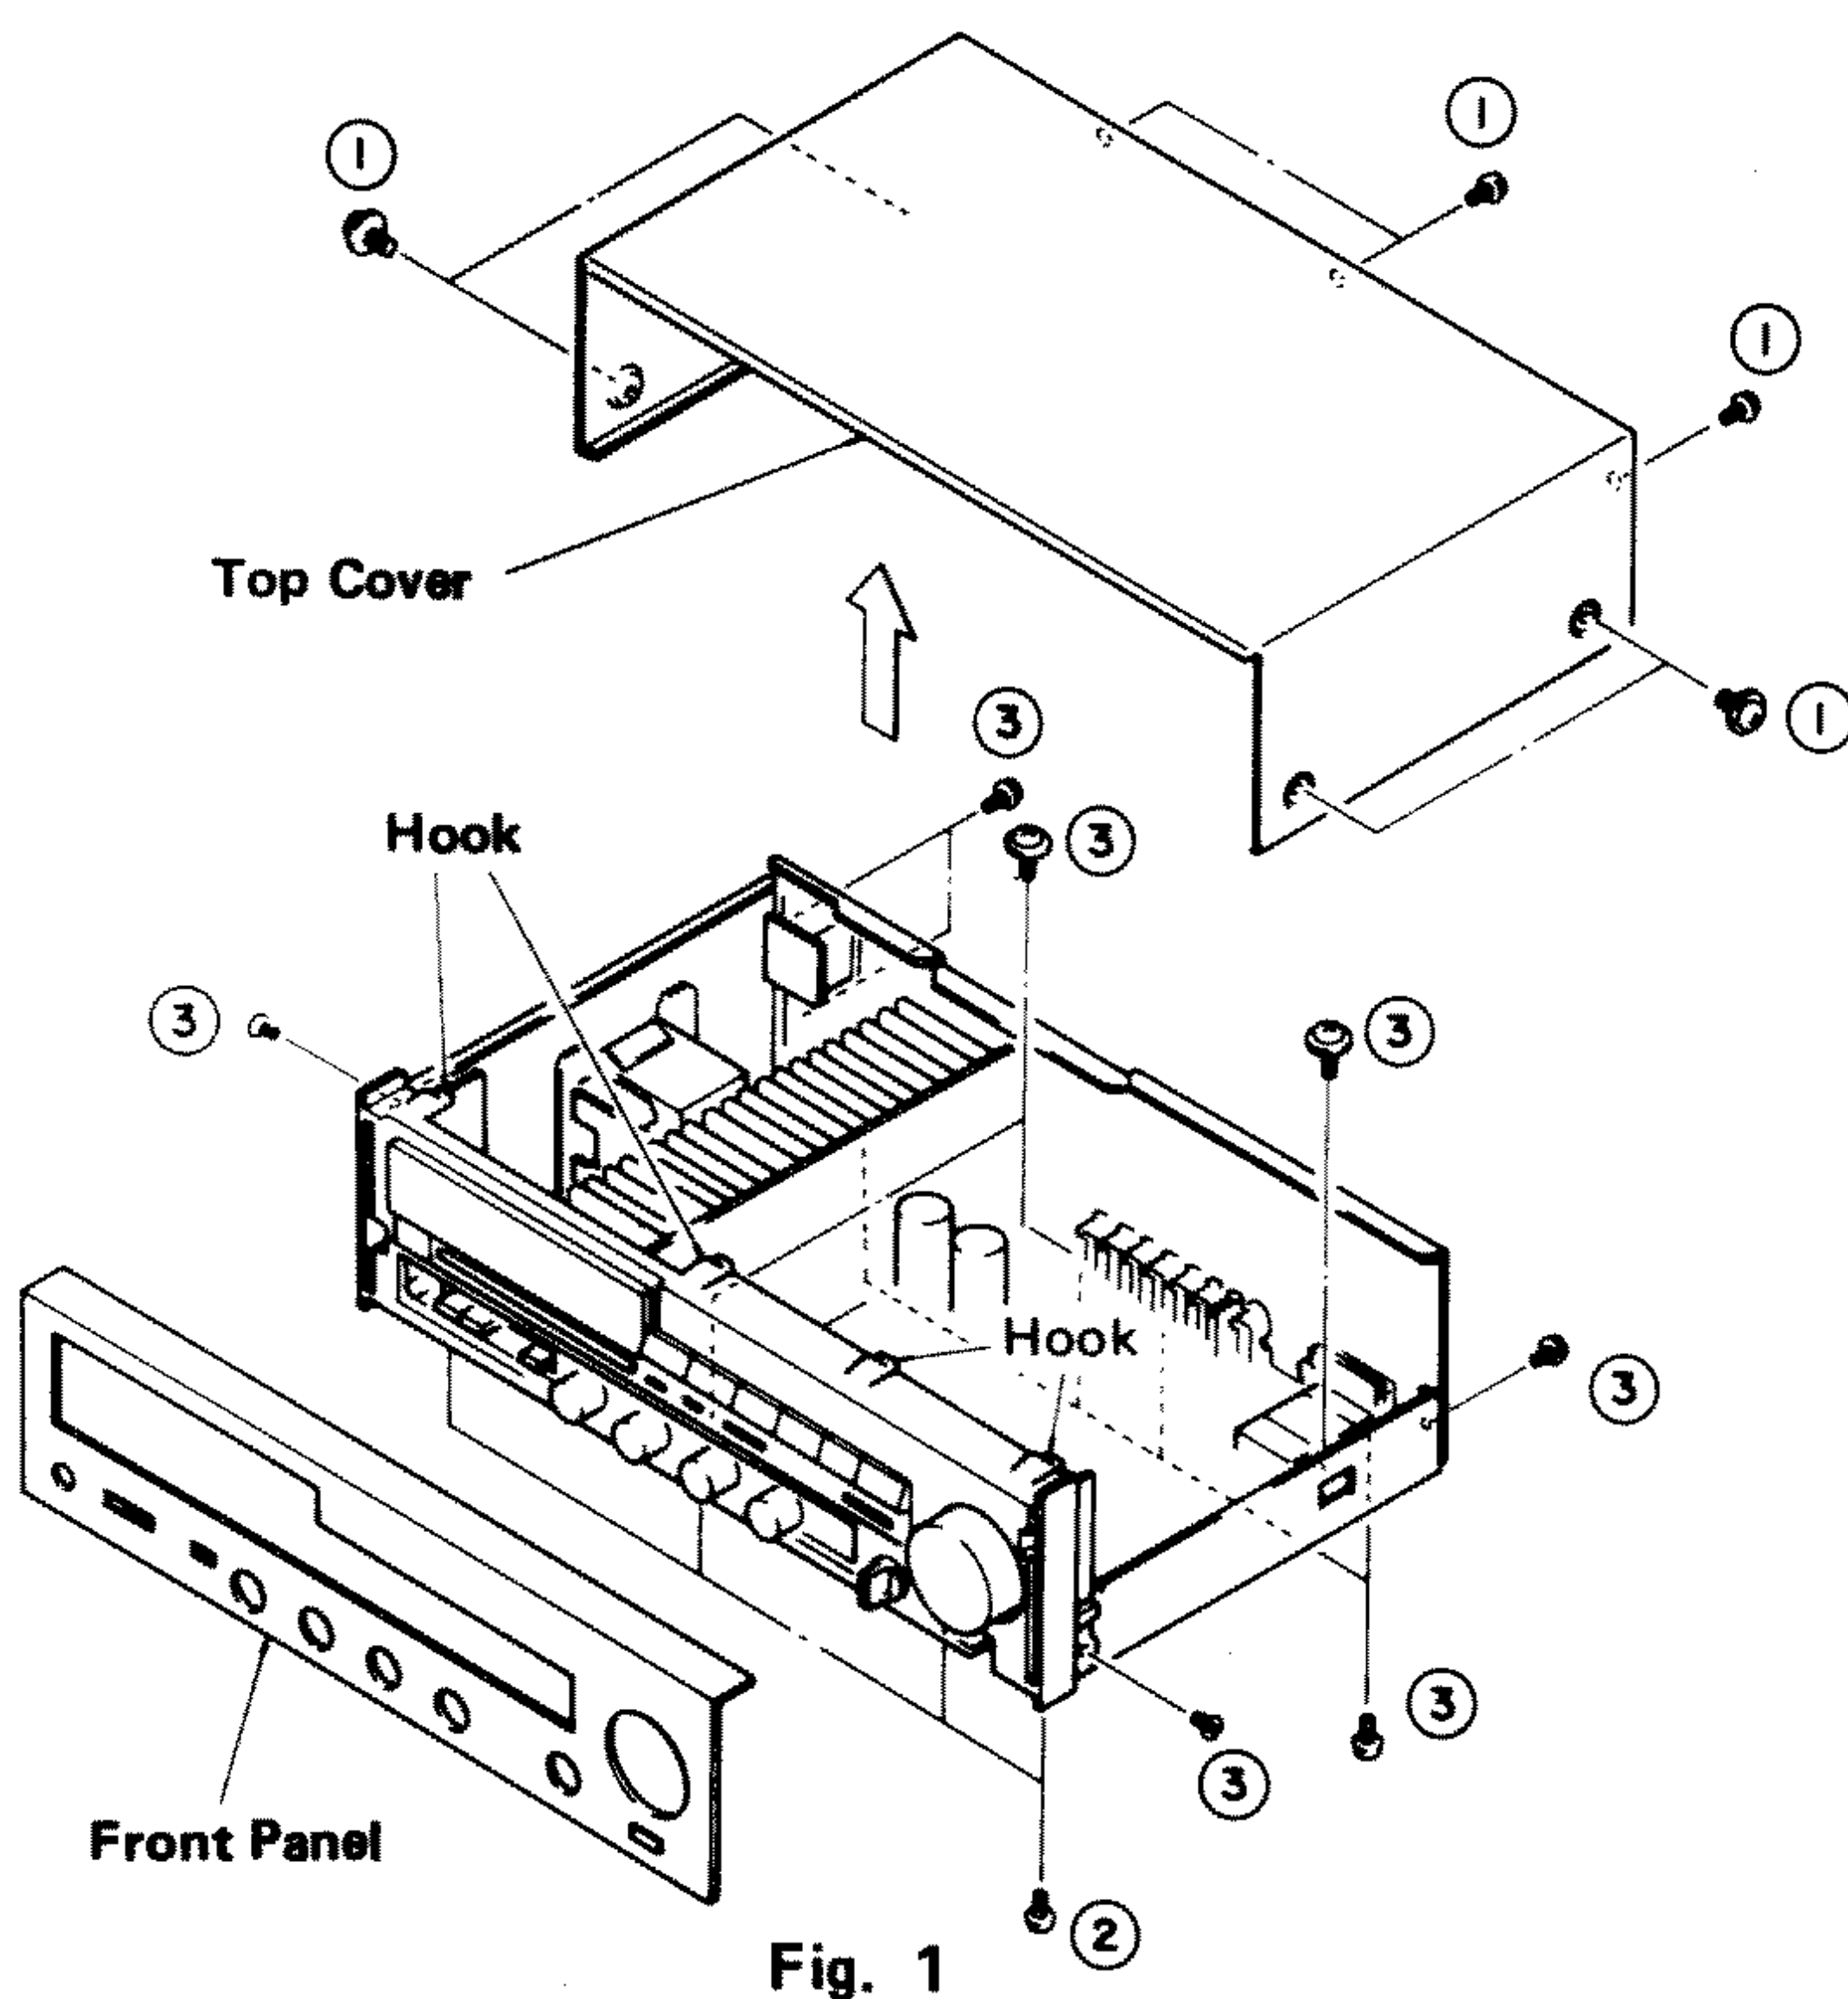

Fig. 1
Remove 7 screws (①) in Fig. 1, and slide the Top Cover back and up.
Remove 4 screws (②) and 4 hooks in Fig. 1, and pull the Front Panel forward.
3. Check of Main Circuit Board (1) and replacement of parts.
a. Remove 12 screws (③) in Fig. 1.